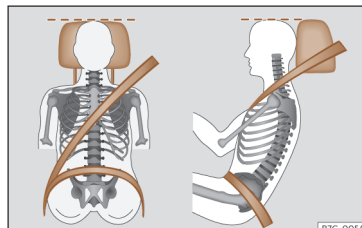

Fig. 7 Correct belt web and headrest positions
- Adjust the headrest so that its upper edge is at the same level as the top of your head, or as close as possible to the same level as the top of your head and under no circumstances below eye level. Keep the back of your neck as close as possible to the headrest»» Fig. 7.